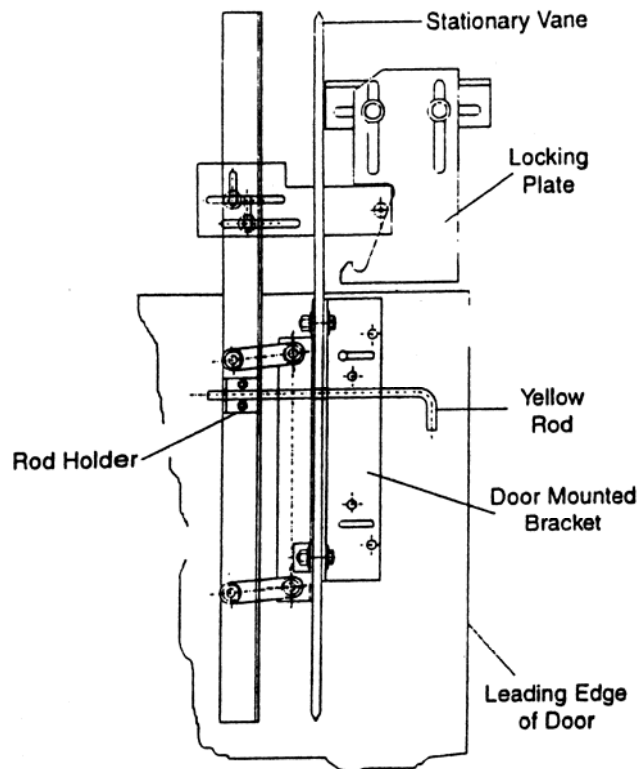

Figure 5
8. The existing door mounted bracket must be positioned near the leading edge of the door (as shown in Figure 5). If necessary, flip the bracket. The exact position of the stationary vane must be maintained in order to retain proper clearance to the interlock rollers.
11. With the rod holder in place on the new vane and with the new vane in the “lifted” position as shown in Figure 5, insert the yellow rod level and into the new vane. The end face should contact the existing vane and bracket. Mark the location of the hole on the stationary vane for the yellow rod.
15. Install the rod holder onto the back side of the movable vane (see Figures 5 and 6).